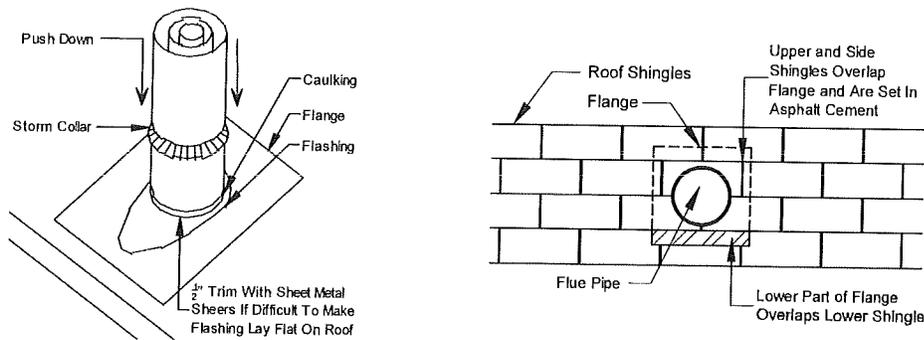

Figure 73. Roof flashing and shingle installation around chimney
5. **Complete shingles.** Cut shingles in successive courses to fit around the pipe and embed them in asphalt cement where they overlap the flashing. Secure shingles with roofing nails through flashing and apply asphalt cement over nail heads. The completed installation should appear as shown in **Figure 73**, with the lower part of the flange overlapping the lower shingles and the side and upper shingles overlapping the flange.